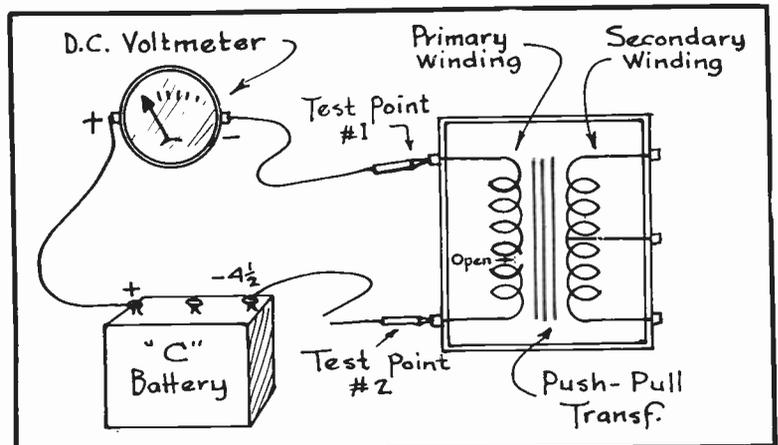
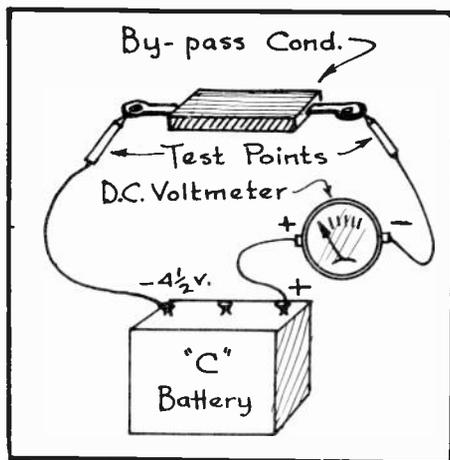

Fig. 1
Fig. 2
1. - TO DETERMINE WHETHER OR NOT A WINDING SUCH AS USED IN AN A.F. TRANSFORMER, R.F. TRANSFORMER, CHOKE ETC. IS COMPLETE OR NOT PROCEED AS ILLUSTRATED IN FIG. 1, THAT IS, CONNECT A  $4\frac{1}{2}$  VOLT "C" BATTERY IN SERIES WITH A PAIR OF TEST LEADS AND A D.C. VOLTMETER HAVING A RANGE OF 0-10 VOLTS.
2. - TOUCH THE TWO TEST POINTS TO THE TWO TERMINALS ACROSS WHICH THE WINDING UNDER TEST IS CONNECTED. IF THE WINDING IN QUESTION IS OPEN CIRCUITED AS INDICATED IN FIG. 1, THEN THE VOLTMETER WILL OFFER A ZERO READING.
1.- THE METHOD OF CHECKING A CONDENSER SO AS TO DETERMINE WHETHER IT IS SHORTED ("BURNED OUT") OR NOT IS ILLUSTRATED IN FIG. 2. HERE THE SAME TESTING EQUIPMENT IS EMPLOYED AS HAS ALREADY BEEN DESCRIBED RELATIVE TO FIG. 1.